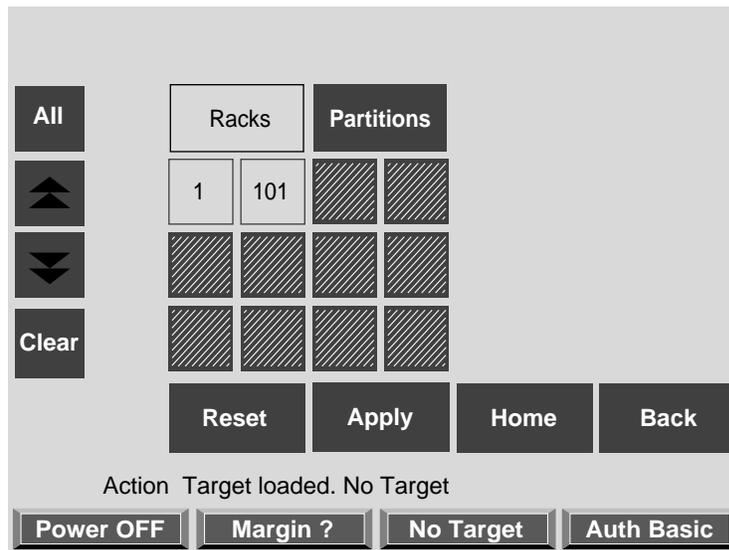

Figure 2-11 Target Select Window
2. Select **Set Tgt** from the **Power** window to select the bricks you want to power on. The **Target Select** window appears, as shown in Figure 2-11.